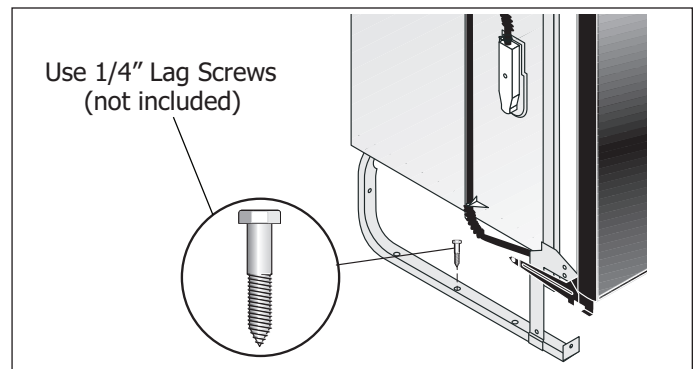

Figure 2-16.
1. Screw 1/4" lag screws, (not included), through holes provided in frame rail. (See Figure 2-16).